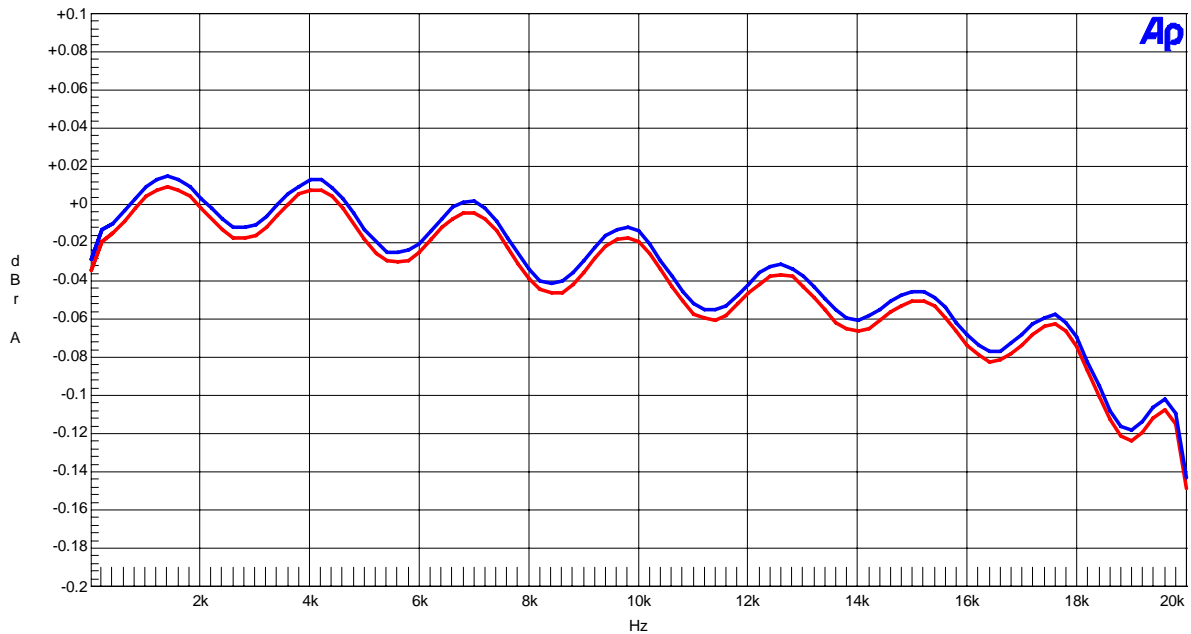

Figure 15. Frequency Response (Input Level=0dBFS)
- Figure 15. Frequency Response (Input Level=0dBFS)